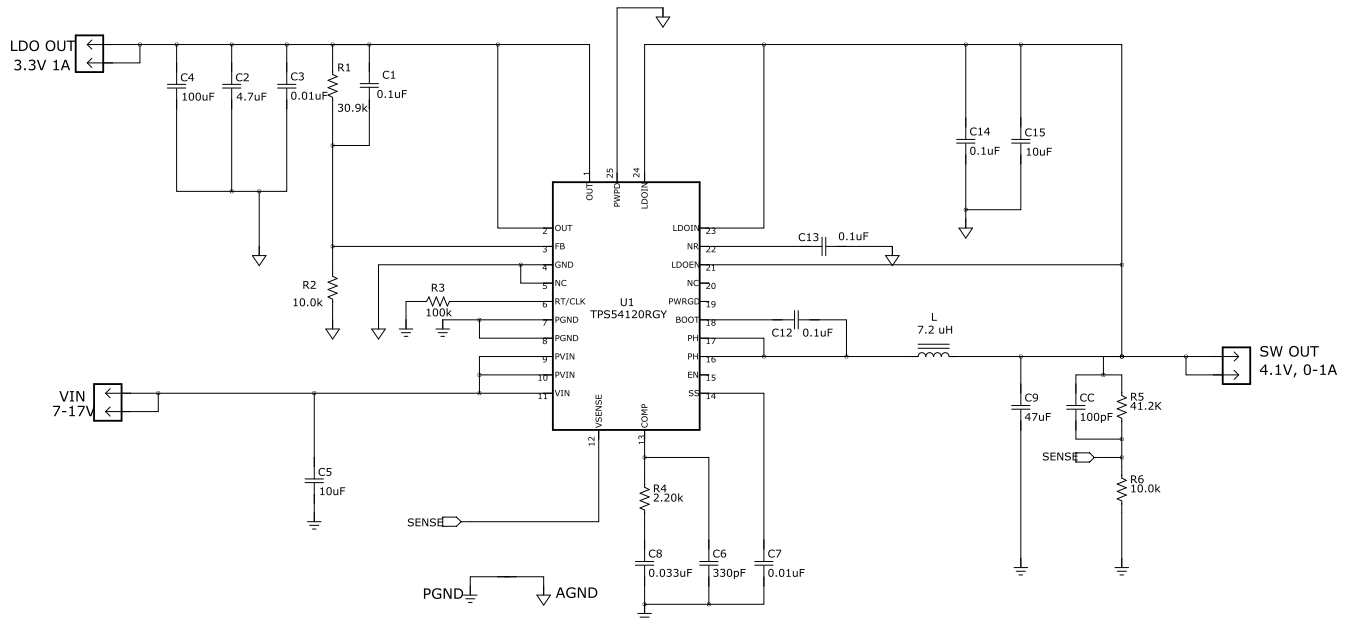

Figure 2. Typical TPS54120 Application Circuit
In order to support 3-A loads at the switcher output, the inductor (L), and compensation components (R4, C6, Cc and C8) must be properly designed. The remaining peripheral components are unaffected by switcher load current and do not require special consideration in this application report, please use the TPS54120EVM-103 as a reference. The equations necessary to determine the current-sensitive components, L, R4, and C8, are provided in this section. Additional information regarding component calculations can be found in the TPS54120 datasheet and the EVM User's guide (see Figure 2).